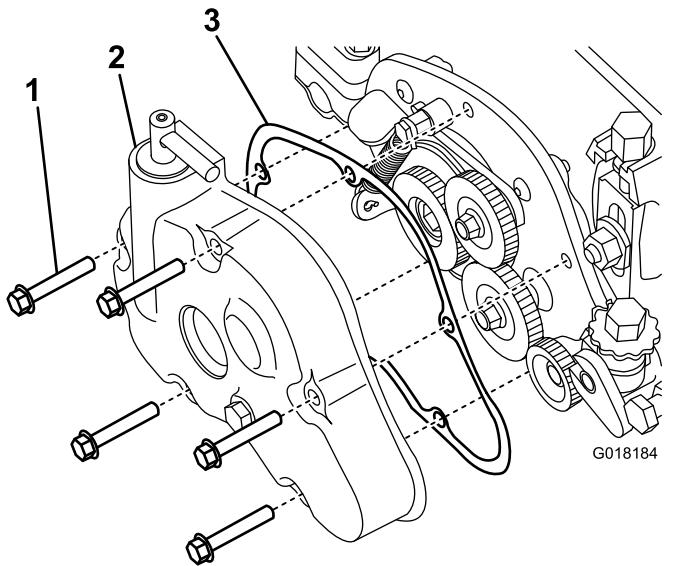

Figure 26
1. Remove the gearbox cover from the groomer housing (Figure 26).